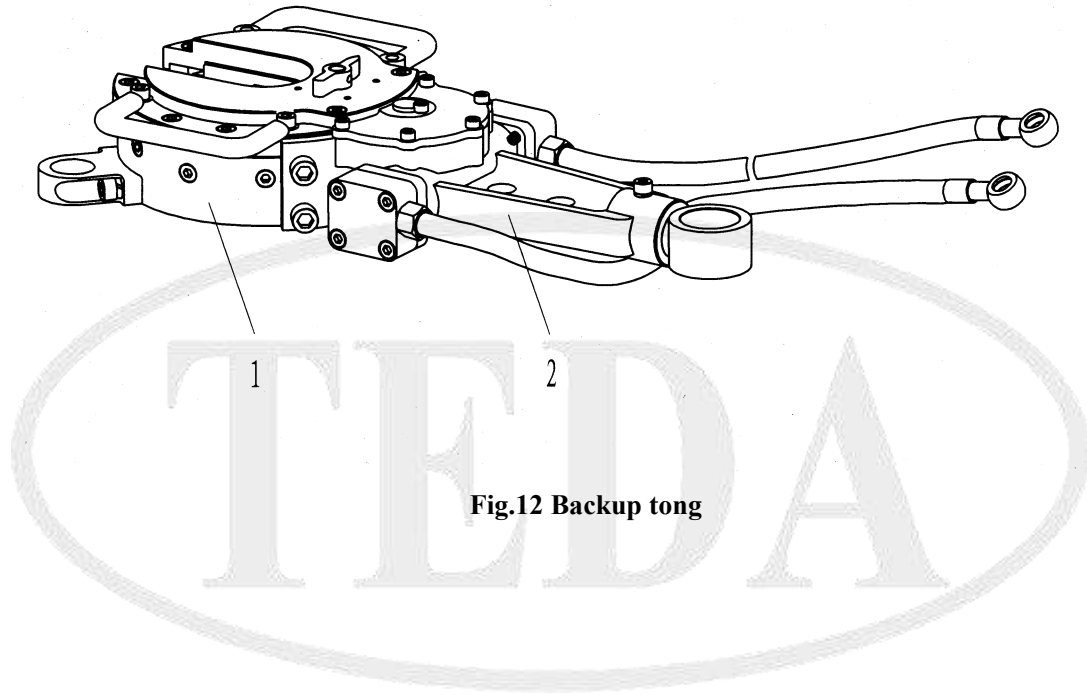

Fig.12 Backup tong
9.10 Backup tong and parts list (Fig.12, Table 10)